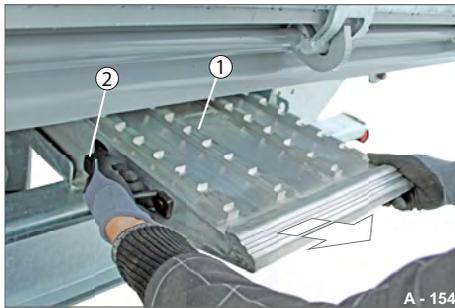

Fig. 164 Pulling out ramp planks
- ▶ Grab the handle (Fig. 164/2) and pull the ramp plank (Fig. 164/1) out a bit.